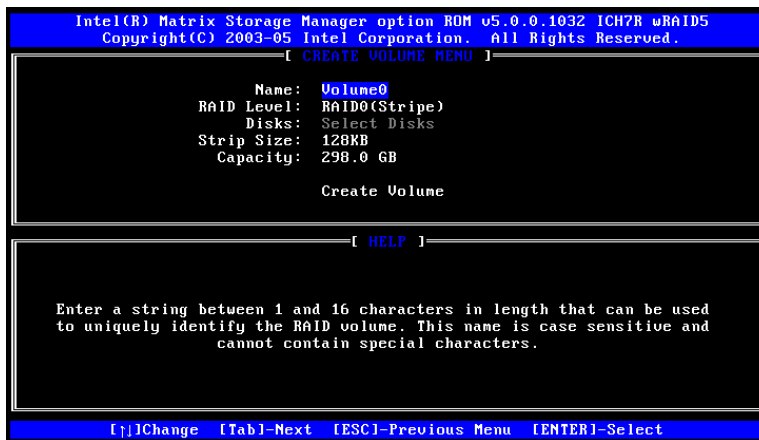

Figure G-2: Create RAID Volume Name
Step 2: Name the RAID volume. Enter a name for the RAID volume, or press **ENTER** to accept the default volume name. Upper and lower case alphabetic, numeric, space, and underscore characters are all applicable for naming an array. See Figure G-2.